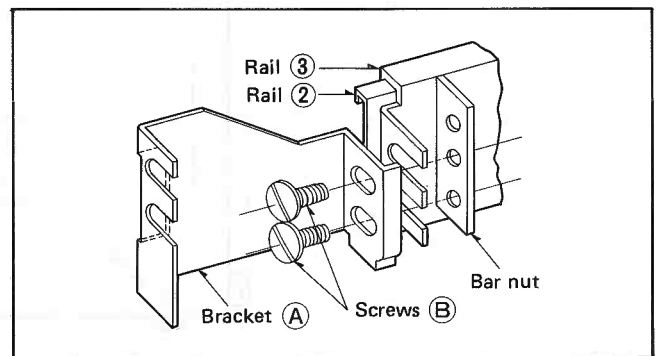

Fig. 3
3. Attach the brackets (A) at the tips of both rails with two screws (B) and one bar nut each. (Fig. 3)